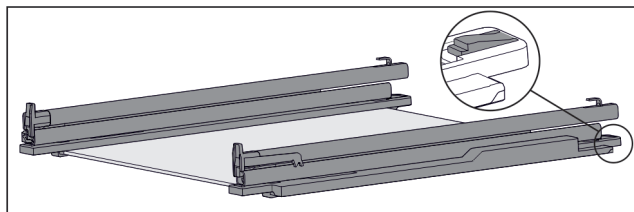

Fig. 120 Glass shelf with rails and retaining parts
- Press down retaining part at the rear (see *Fig. 120*) and simultaneously push rail back.